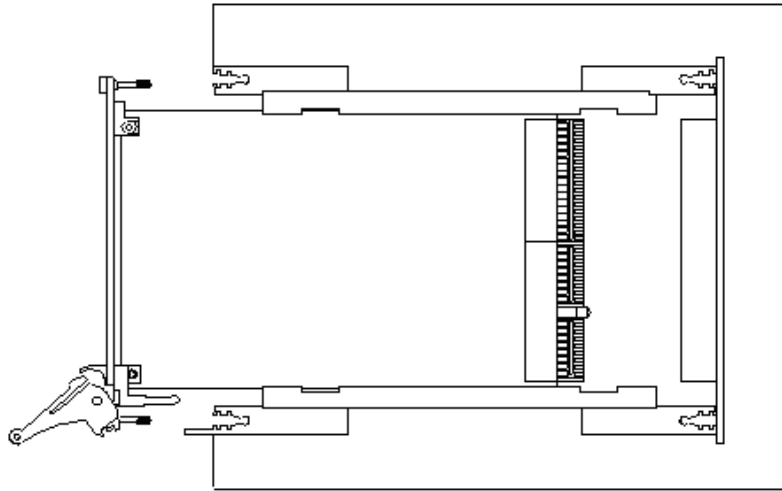

Figure 3-1: Ejector handle position during module insertion
6. Carefully slide the PXI board to the rear of the chassis, make sure that the ejector handle is pushed **out** (as shown in Figure 3-1).